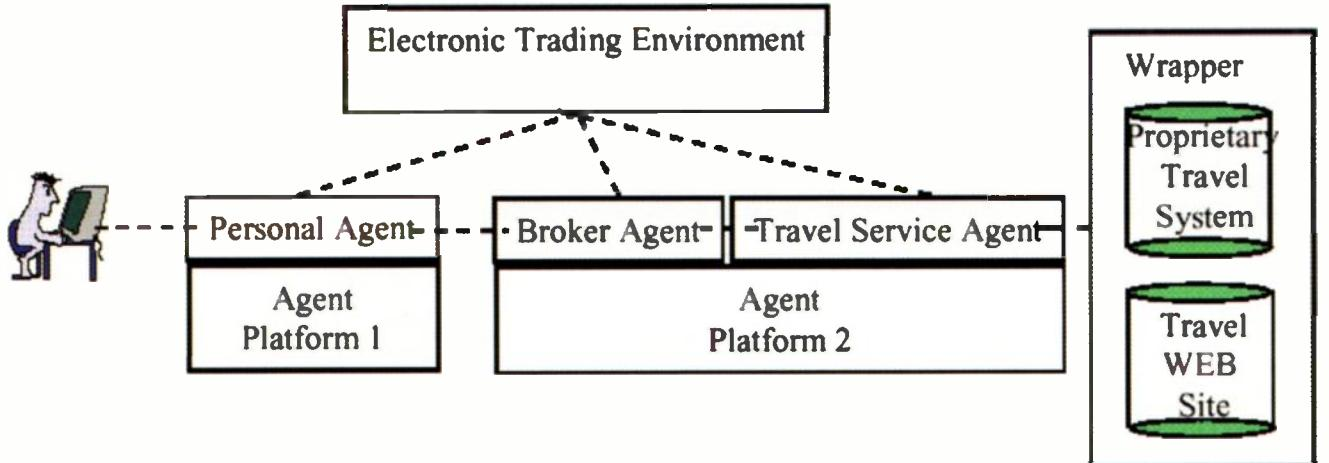

Figure 5.
The Electronic Trading demonstrator used the personal travel industry to validate the standards, although any commerce would have been suitable. As Figure 5 shows, the user was represented by a Personal Agent (PA), that contacted a Travel Broker Agent (TBA) - the equivalent of a travel agent, that contacted a Travel Service Agent (TSA) acting on behalf of airline companies, hotel owners, etc, and replying back to the PA with the details. If agreeable, then the Electronic Market Facilities were brought into operation for secure payments to be made.